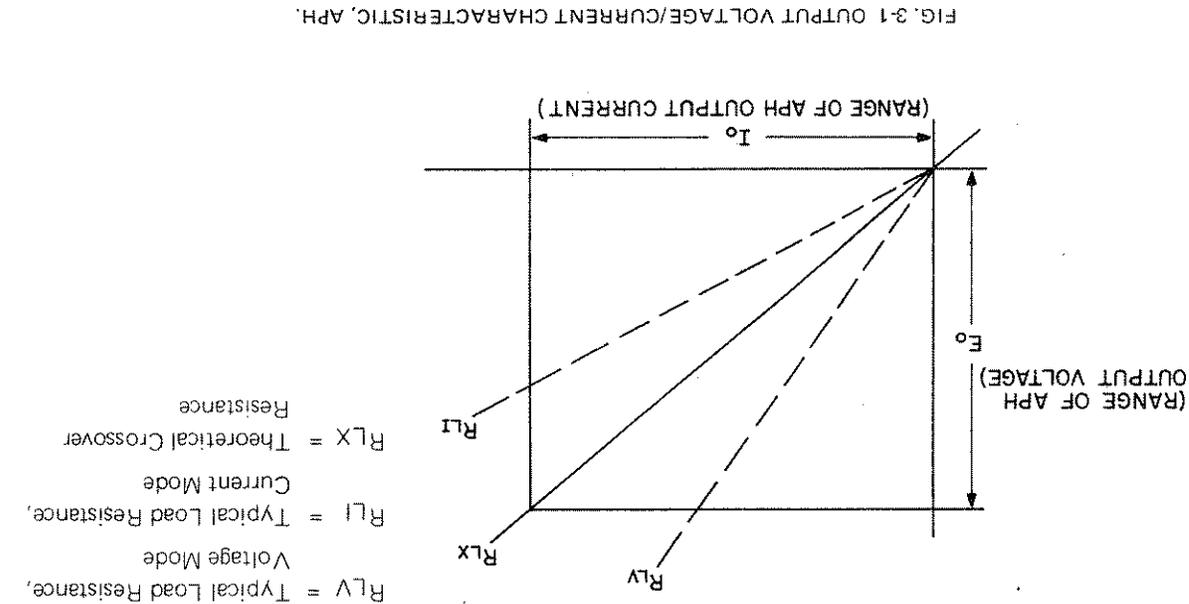

FIG. 3-1 OUTPUT VOLTAGE/CURRENT CHARACTERISTIC, APH.
a) As a precision VOLTAGE OR CURRENT SOURCE, the control channels of the APH are utilized with either local feedback (built-in, 10-turn front panel rheostats), with external feedback (remote control resistance), or programmed with external control voltages. With either control method, the APH output is stabilized and controlled over the full rated range of the APH model. The operating mode ("Voltage Mode" or "Current Mode") is determined by the load resistance and by the magnitude of the set (at the front panel or externally) output quantities. It, in Figure 3-1, "E_o" (output voltage) and "I_o" (output current) represent the respective settings of the APH output quantities, set by means of front panel or external controls, the "crossover" resistance (R_{LX}) is given by Ohm's Law:
Any load resistance *smaller* than R_{LX} (as for example R_{LI} in FIG. 3-1) will transfer the APH into the "Current Mode." With any load resistance *larger* than R_{LX} (as for example R_{LV} in FIG. 3-1), the APH will operate in the "Voltage Mode." The prevailing operating mode is indicated by means of front panel mode indicator lamps.